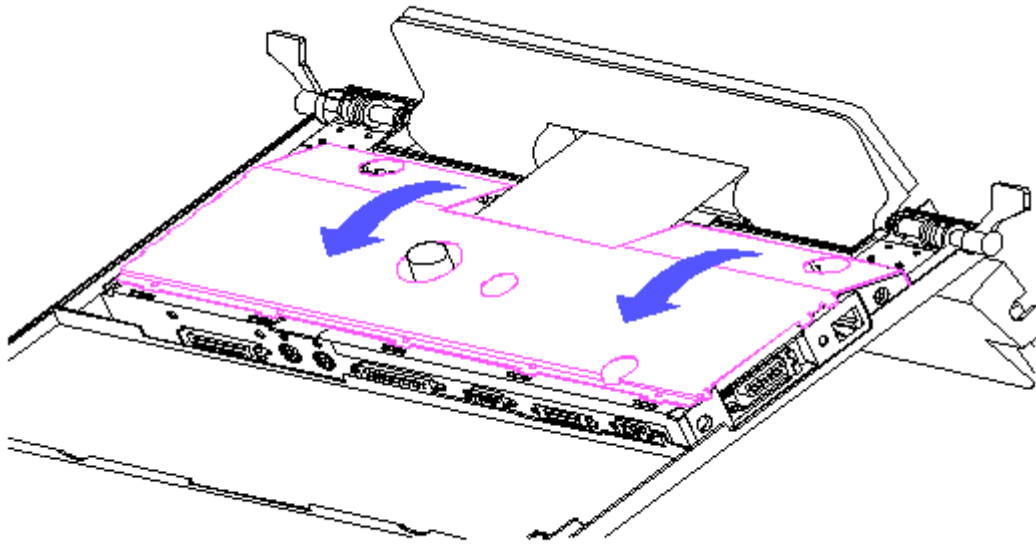

Figure 4-17. Removing the Pan Cover
3. Remove the metal pan cover (Figure 4-17).